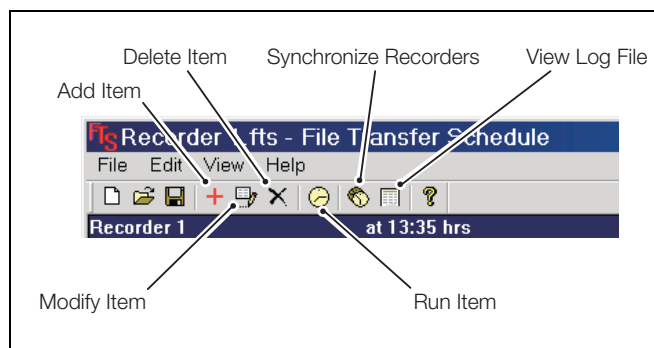

Fig. 2.2 'File Transfer Schedule' Window
Double-clicking the icon opens the 'File Transfer Schedule' window – see Fig. 2.2. This is used to configure and control all file transfer and scheduling operations.
1. In the 'File Transfer Schedule' window (see Fig. 2.2 on page 2), highlight the schedule to be modified.
1. In the 'File Transfer Schedule' window (see Fig. 2.2 on page 2), highlight the required schedule.
1. In the 'File Transfer Schedule' window (see Fig. 2.2 on page 2), highlight the schedule to be run.